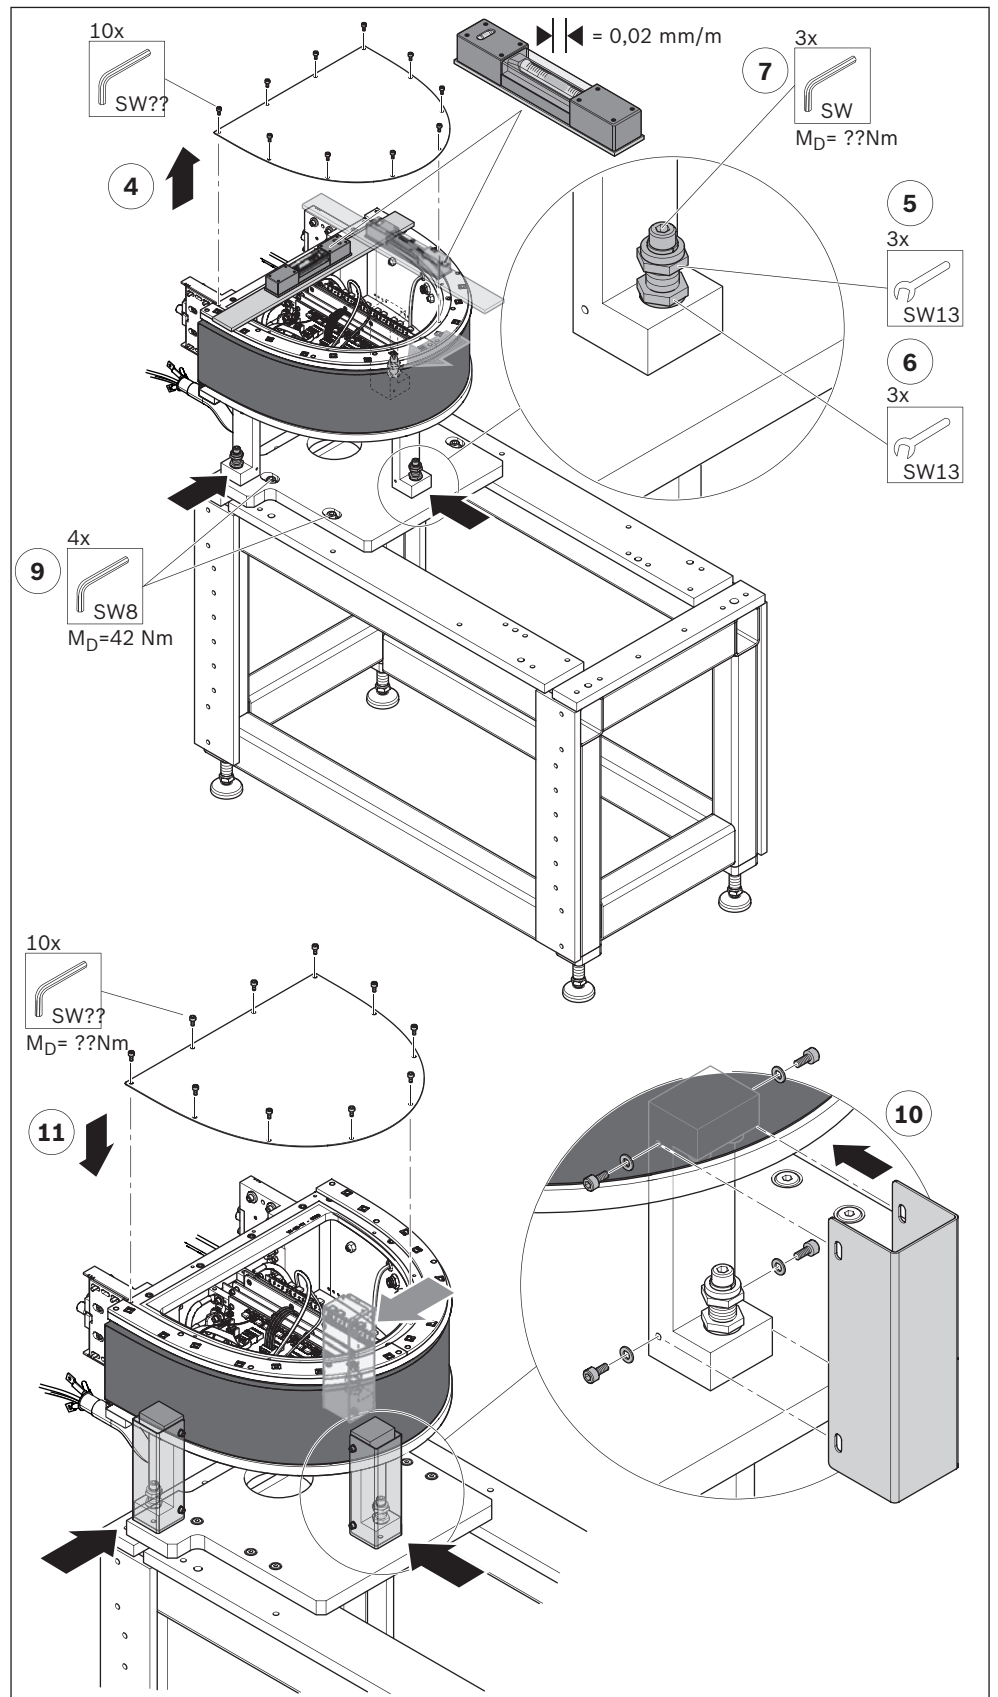

Fig. 40: Mounting curve module on a base frame (2)
2. Check the alignment of the system section with curve module (see Fig. 40 on page 63).